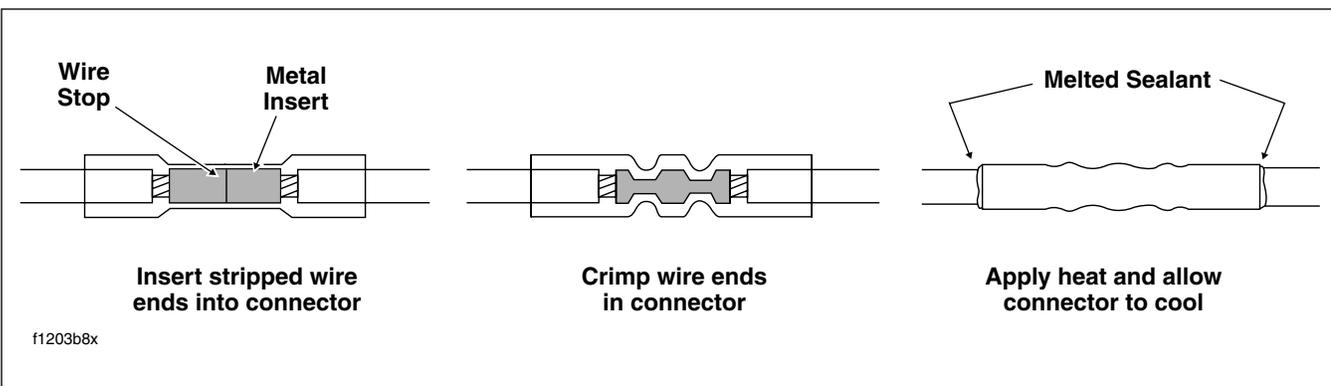

Figure B-40. Installing Sealed Butt Splice Connectors
6. See Figure B-40. Feed the wire into the butt splice connector until the stripped end contacts the wire stop inside the metal insert.
9. Using the UltraTorch UT-100 (HD-39969), Robinair Heat Gun (HD-2507 41183) or other suitable radiant heating device, heat the crimped splice to encapsulate the butt splice connection. Apply heat from the center of the crimp out to each end until the meltable sealant exudes out both ends of the connector. See Figure B-40.